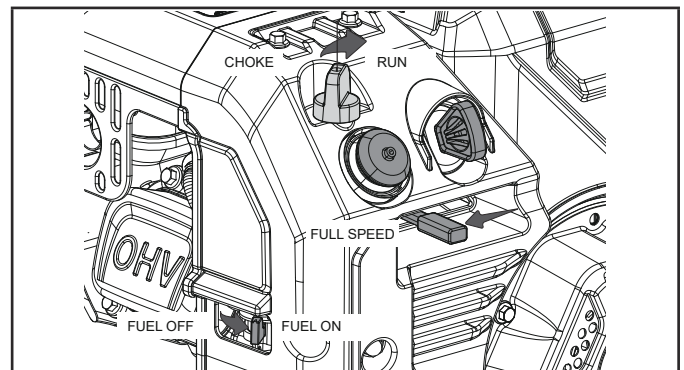

Figure 16
2. To start a warm engine: (Fig. 16).